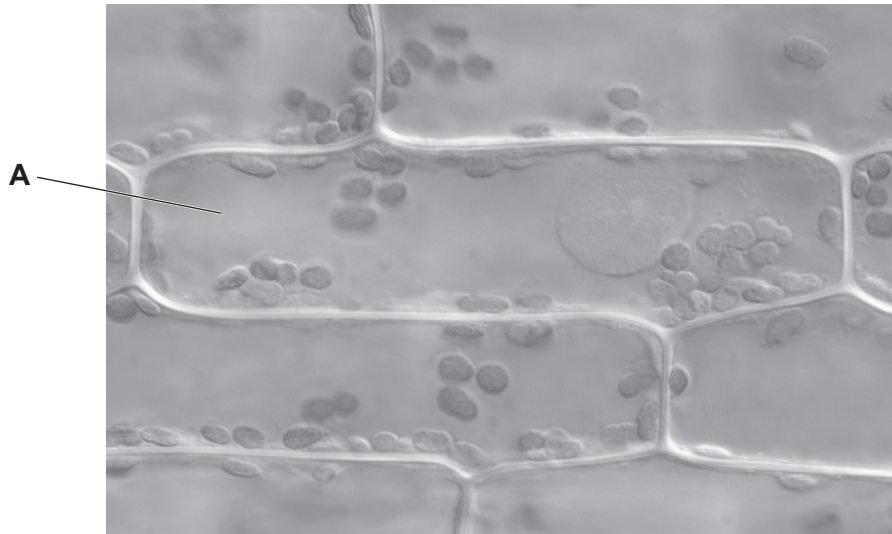

Fig. 2.1
- 2 (a) Fig. 2.1 is a photomicrograph showing several cells from an *Elodea sp.* aquatic plant.
- (i) Draw a large diagram of the cell labelled A in Fig. 2.1.